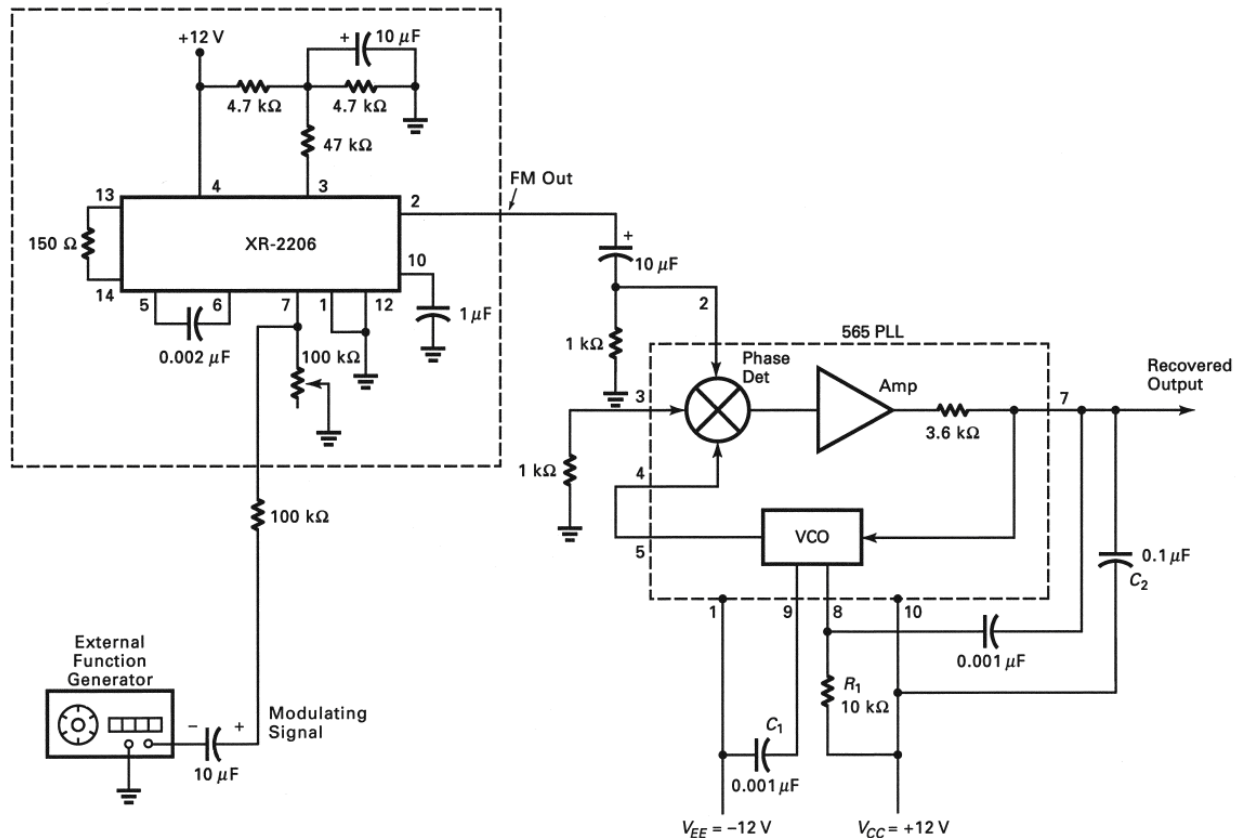

Fig. 6-4 Using a PLL for FM demodulation.
1. The complete circuit for this experiment is shown in Fig. 6-4. It is made up of the 2206 IC frequency modulator you used in the preceding experiment, and the demodulator circuit itself is the 565 PLL you used in that experiment. Connect the output of the frequency modulator to the 565. In the PLL circuit, replace the $0.01\text{-}\mu\text{F}$ capacitor with a $0.001\text{-}\mu\text{F}$ capacitor. Replace the $2.7\text{-k}\Omega$ resistor R_1 with a $10\text{-k}\Omega$ pot.